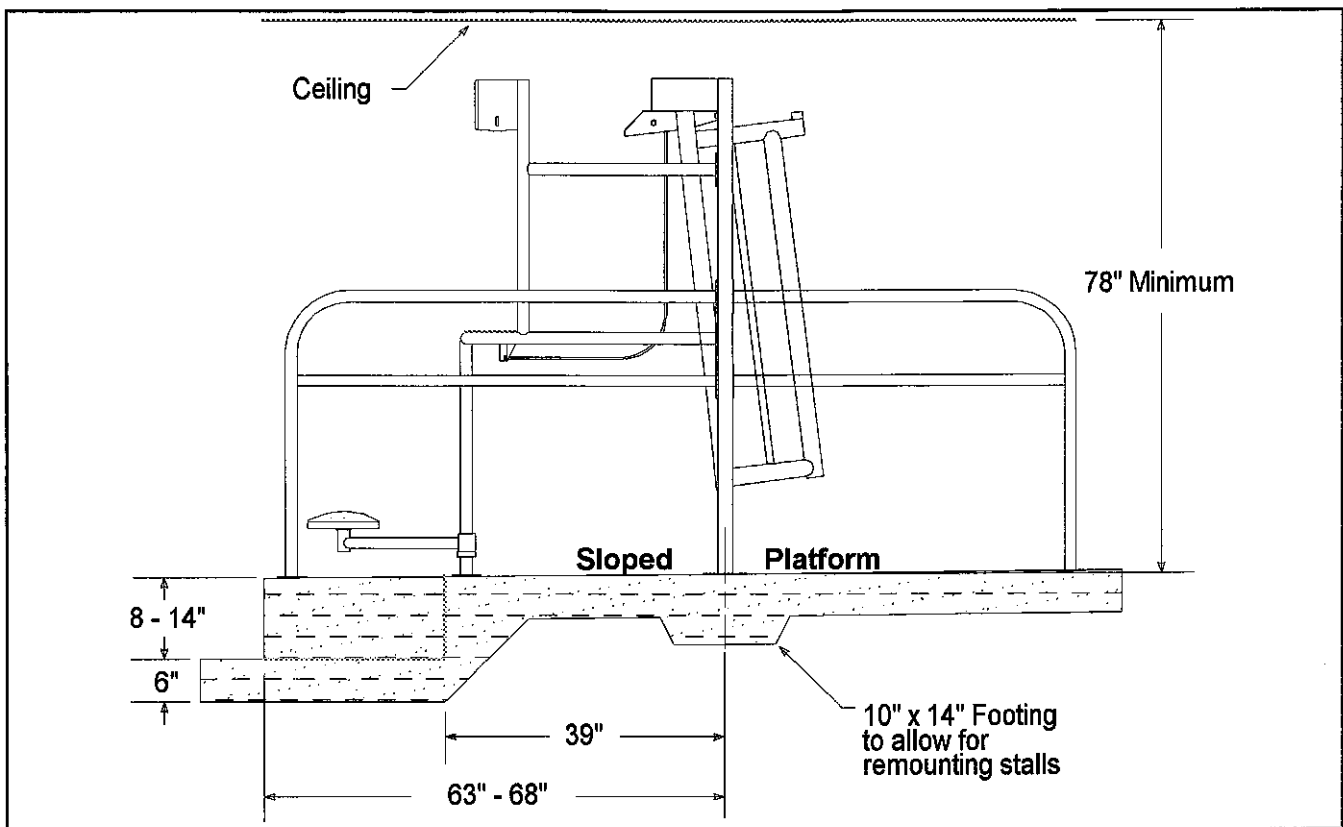

Figure 2.
A.F. Klinzing, Co., Inc. recommends a range of 63 - 68" for platform length. For the average holstein herd the most common platform length will be 64 - 66". See figure 2.
**Note:** When considering the height of the platform, keep in mind that at the head of the stall there should be a minimum of 78" between the platform and the ceiling(or floor joist for the hay mow) in order to make adjustments and perform maintenance or repairs(see figure 2.)
In general the thickness of the concrete should be at least six inches except in the area where the stall uprights will be anchored to the concrete. In this area a minimum thickness of ten inches is recommended in case the stalls need to be "reanchored" using longer concrete studs(see figure 2.)
We strongly recommend that all concrete surfaces have a minimum slope of one inch for every ten feet in length. The cow platform and exit alleys in front of the stalls should all be on one constant slope. The entrance alley and milkers cubicles should all be sloped to drains or gutters intended to be used for clean up. See figure 2.